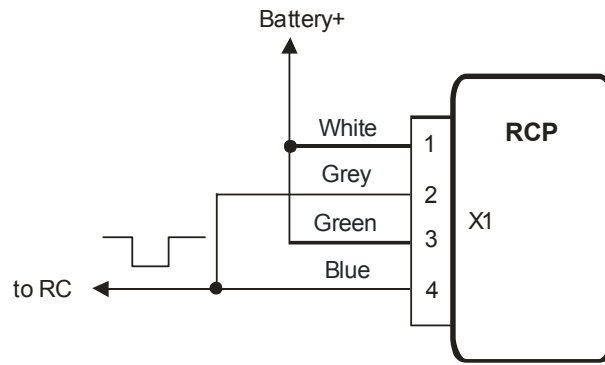

Figure 6
- The remote control with the only one output line may be connected by the scheme at fig. 6 to add a possibility not only to turn the heater on, but also turn the heater off too. Every one impulse on the output line of the remote control receiver unit will move the heater to the opposite state: switch on idle heater, switch off operated heater. To realize this mode it is necessary to connect in pairs the inputs Heater_on+ with Heater_off+, and also the inputs Heater_on- with Heater_off-.